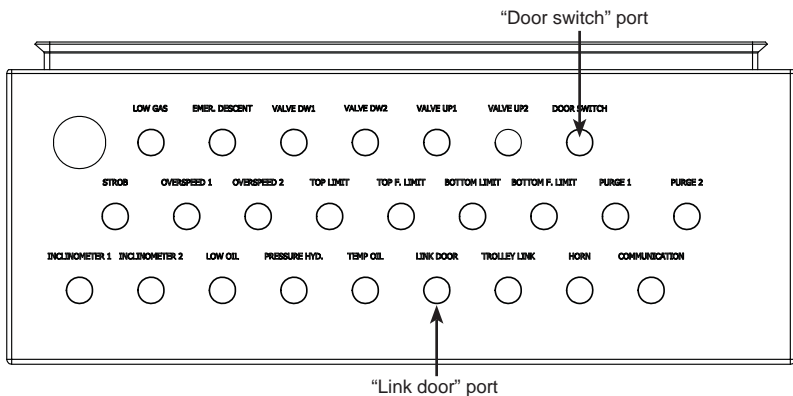

Fig. 1.25
- 1- Locate the “Door switch” port under the control panel (fig. 1.25). Remove the terminator plug and store it in the tool box.
- 4- Connect each proximity sensor in either one of the ports (fig. 1.25). Replace all the plastic hoods. The transport platform setup is now ready for operation.